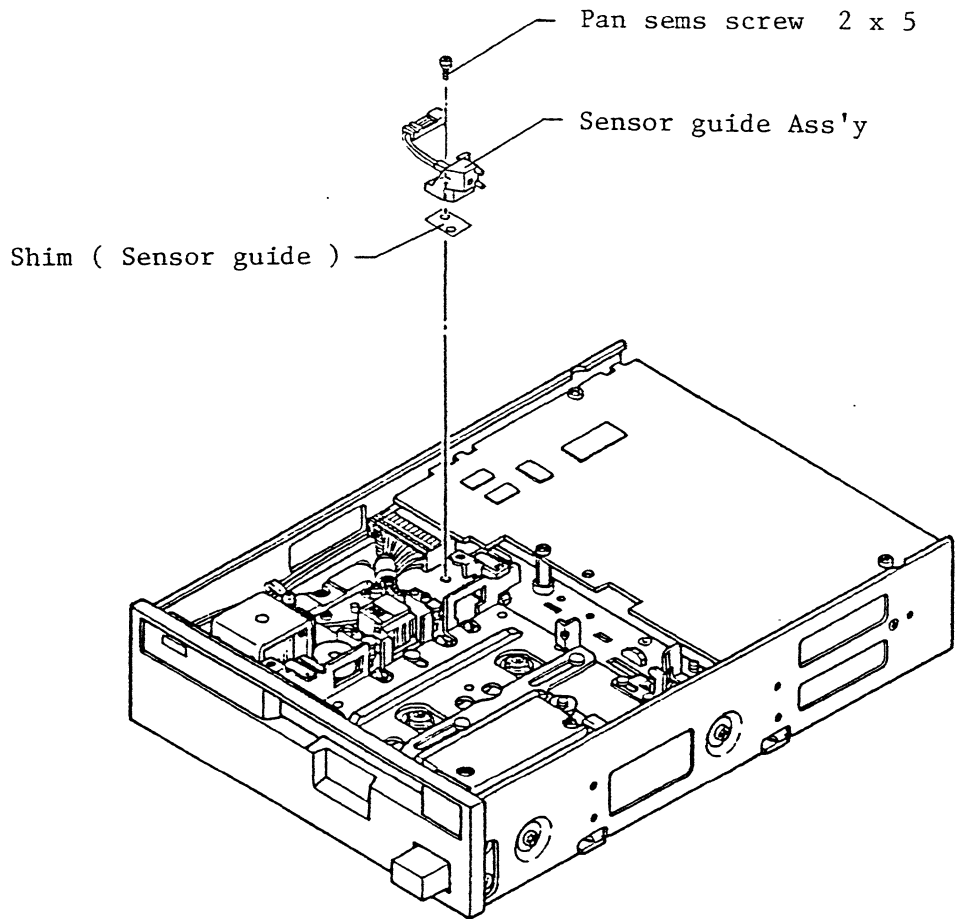

Fig.442 Replacement of sensor guide Ass'y
- (1) Articles to be used
- (2) Replacement procedure
- (c) Remove the mounting screws from the sensor guide Ass'y, and detach the sensor guide Ass'y (Fig. 442).